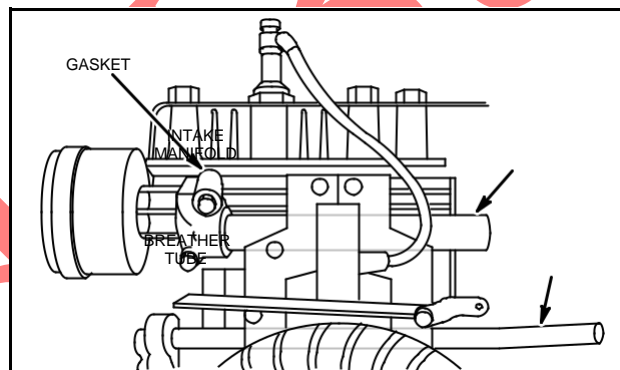

Fig. 145 - BREATHER AND INTAKE MANIFOLD
1. Intake manifold is held by screws to cylinder on vertical crankshaft Model Series 90000, 100000, 110000, and 130000, Fig. 145.